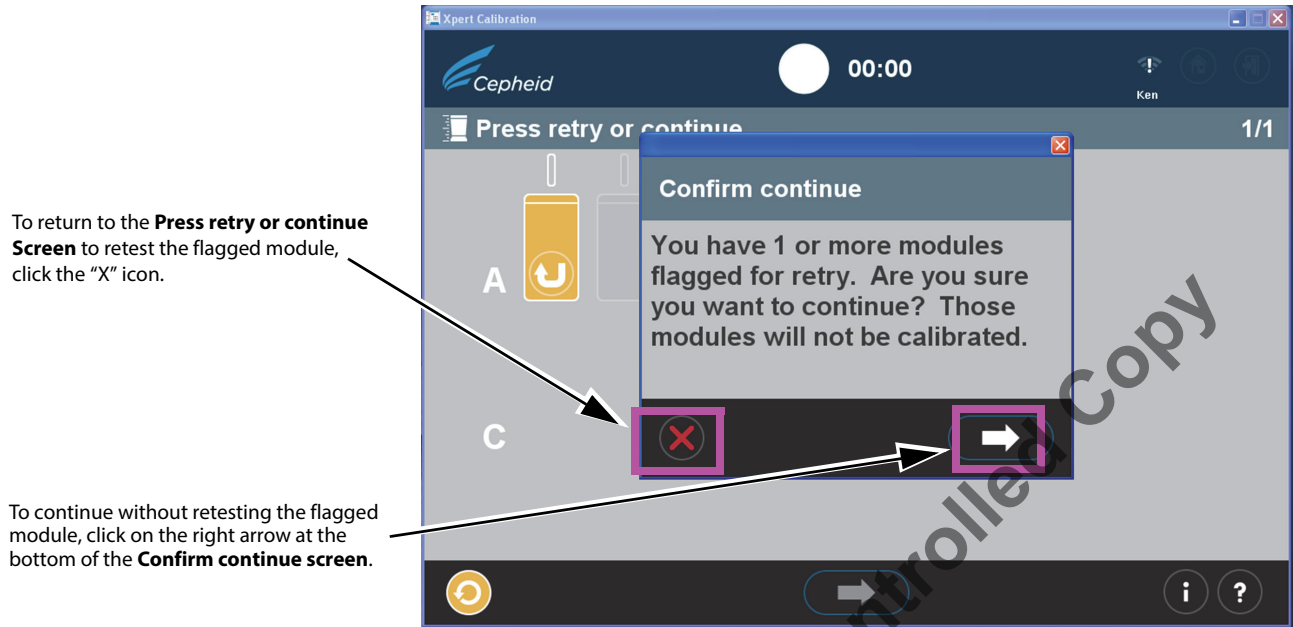

Figure 20. Confirm continue Screen Overlay
c. If the arrow at the bottom of the screen is pressed when there is an unsuccessful module test displayed (as shown in Figure 19), the Confirm continue screen will appear. See Figure 20.